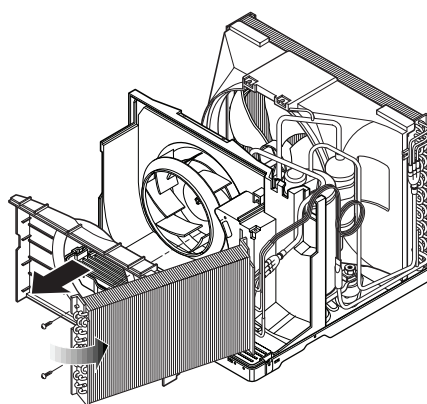

Figure 6
9. Move the evaporator forward and pulling it upward slightly. (See Figure 6)